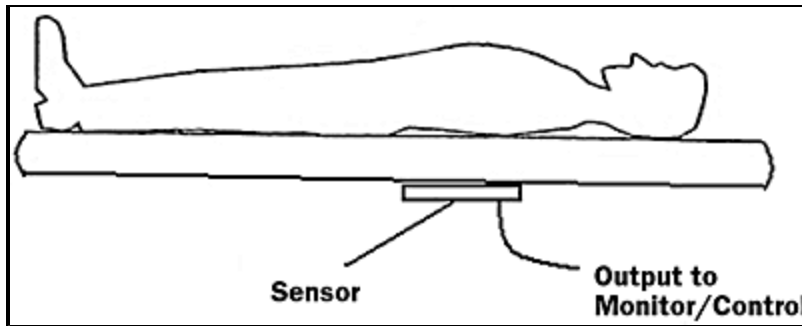

Figure 5. Current initiatives include various health and well-being monitoring devices, some wearable and some placed beneath a mattress.
- Noncontact, nonintrusive patient monitoring for hospitals and long-term living facilities (see Figure 5)